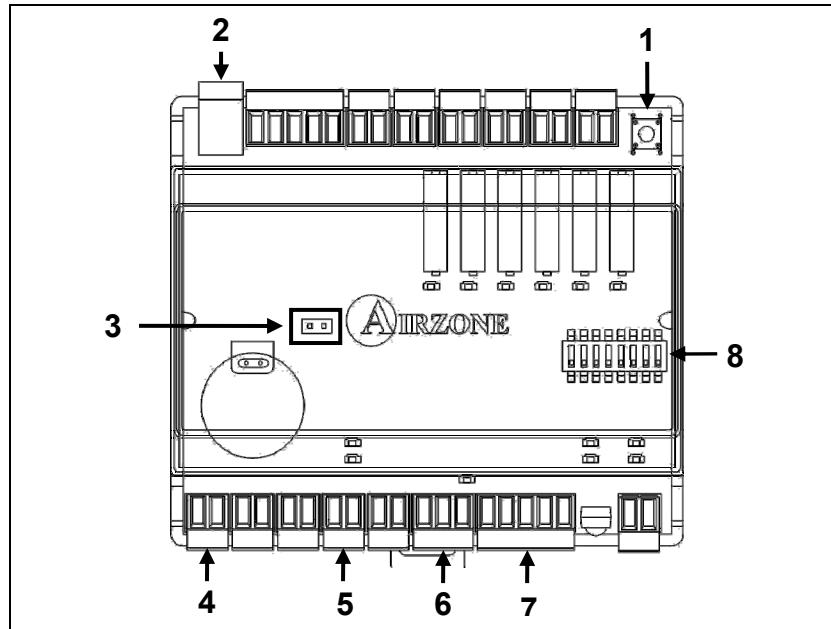

Fig. 3 - Airzone Controller
POWER SUPPLY (item 2 in fig. 3)
IQ BUS PORT (item 7 in fig. 3)
ALARM BRIDGE (item 5 in fig. 3)
SUPPLY TEMPERATURE PROBE (item 4 in fig. 3)
- It is advisable to locate the thermostat at a height h of between 55 to 70 inches (1.4 to 1.8 m) above the floor of the room (Fig. 3).